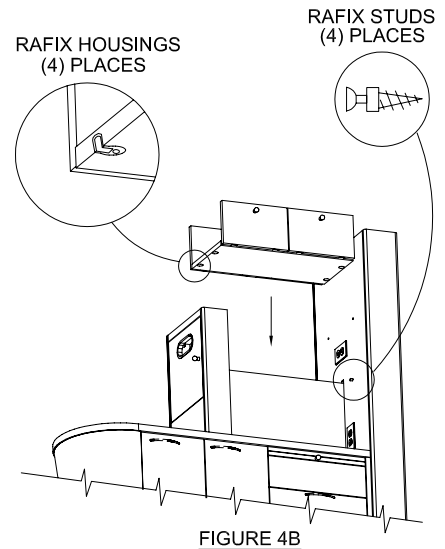

FIGURE 4B
Drop the upper flip down door section onto the divider panel making sure the (4) Rafix studs on the utility column and front column insert in the (4) Rafix housings on the bottom of the door module then tighten each one with a screwdriver. See Figure 4A. & Figure 4B.